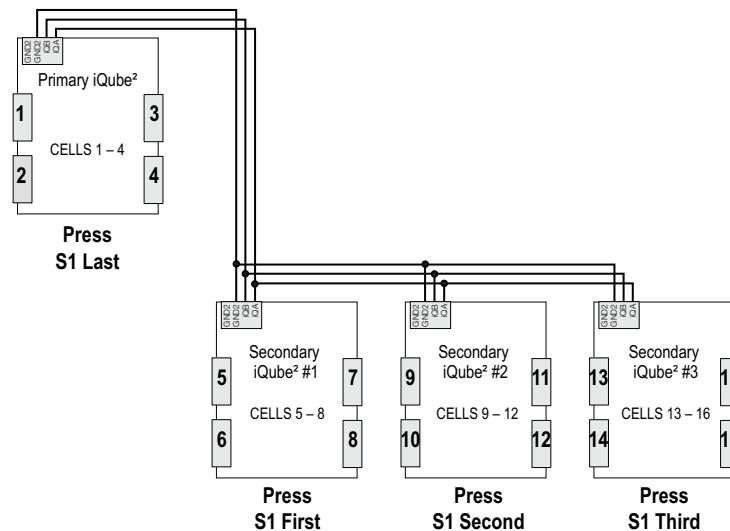

Figure 9. iQube² Board and Load Cell Assignments
3. Refer to Figure 9 and press S1 (located on the CPU board - Figure 1 on page 1) to assign the load cells in the order that is shown. They must be assigned in that order.